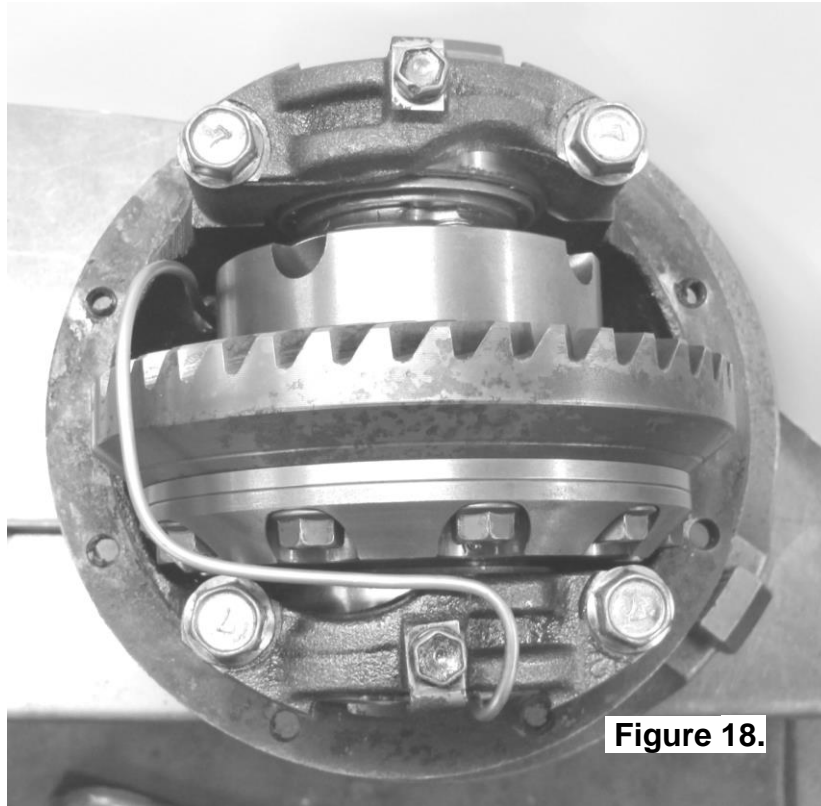

Figure 18.
- With the seal housing tube now firmly secured into the bulkhead fitting, bend the tube so that it closely follows the profile of the differential. (Figs.18., 19. & 20.)